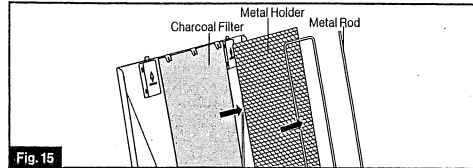

Fig. 15
4. Separate the metal rod, the metal holder and the charcoal filter from the cover. (Fig. 15)
4. Repeat steps 4-1 in 'Metal Holder' to replace the filter panel. See figure 15 for the replacement process of the filter and metal holder.